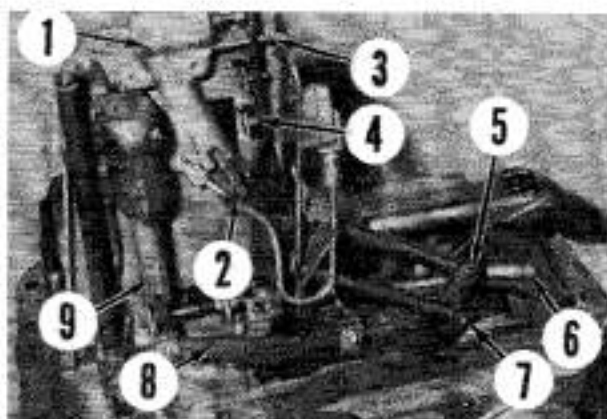

Fig. 198—View of lift cover internal control linkage. Pressure control model is shown.
**212. DRAFT CONTROL ROD.** To adjust draft control rod (6—Fig. 198), first move draft control lever to full "UP"
On pressure control models, disconnect pressure control lever (8—Fig. 198) from pressure control valve and rear pivot pin, and remove control lever. Remove pressure control adjusting tube (9) with rod, clevis and spring from pressure control valve.
**215. PRESSURE CONTROL VALVE.** On models equipped with pressure control, reinstall spring and adjusting tube (9—Fig. 198) into pressure control valve. Attach pressure control lever (8) to clevis and pivot pin. Move draft control lever fully "UP" and move inner quadrant